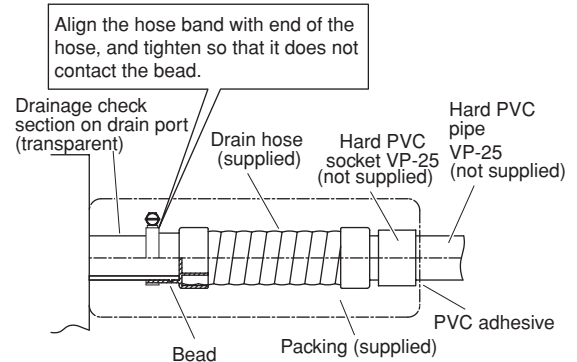

Fig. 3-68
- Prepare standard hard PVC pipe (O.D. 1-1/4") for the drain and use the supplied hose band to prevent water leaks. The PVC pipe must be purchased separately. The transparent drain part on the unit allows you to check drainage. (Fig. 3-68)
- Tighten the hose clamps so their locking nuts face upward. (Fig. 3-68)